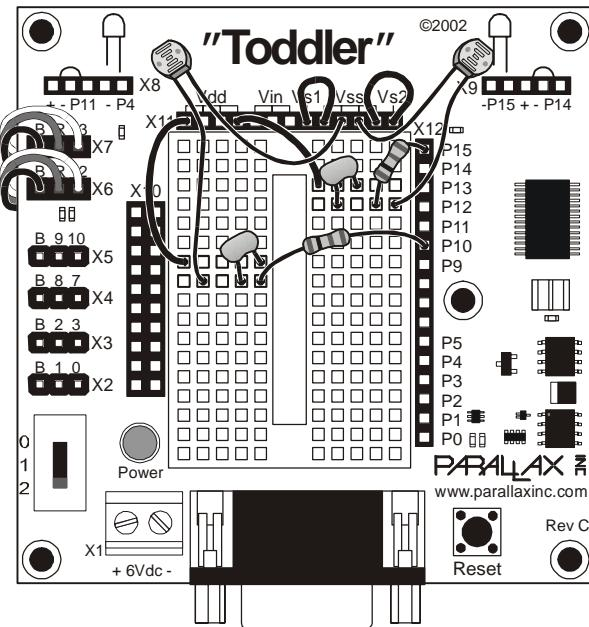
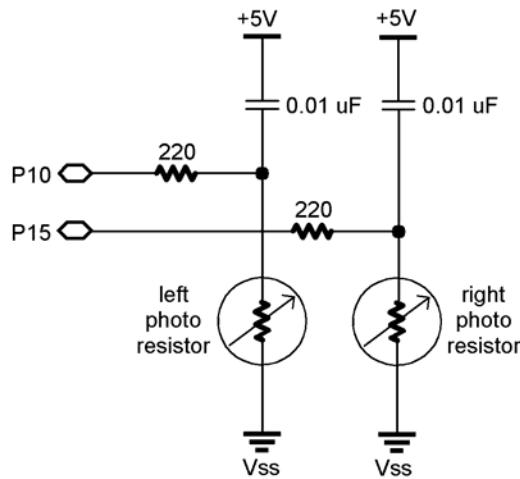

Figure 5-2: Light Following Pictorial
Figure 5-3: Light Following Schematic
Figure 5-2 and Figure 5-3 show the resistor/capacitor (RC) circuit for each photoresistor. A photoresistor is an analog device. Its value varies continuously as luminance, another analog value, varies. The photoresistor's resistance is very low when its light-sensitive surface is placed in direct sunlight. As the light level decreases, the photoresistor's resistance increases. In complete darkness, the photoresistor's value can increase to more than 1 M Ohm. Even though the photoresistor is analog; its response to light is nonlinear. This means if the input source (luminance) varies at a constant rate, the photoresistor's value does not necessarily vary at a constant rate.
The circuit in Figure 5-2 and Figure 5-3 was designed for use with the PBASIC **RCTIME** command. This command can be used with an RC circuit where one value, either R or C, varies while the other remains constant. The **RCTIME** command lends itself to measuring the variable values because it takes advantage of a time varying property of RC circuits.